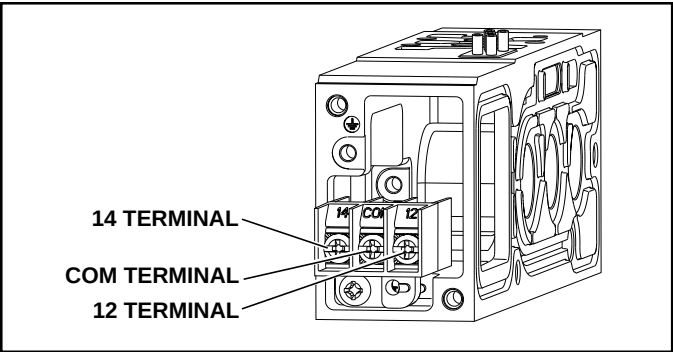

Figure 4
1. The suggested wiring sequence is to attach the first address (ribbon lead colored brown) to the first solenoid (Terminal "14" on the Manifold Terminal Block - see Figures 4 and 5) of the closed manifold. If that same manifold has a second solenoid, then the second address (ribbon lead colored red) is attached to the second solenoid (Terminal "12" on